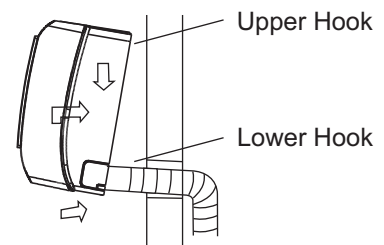
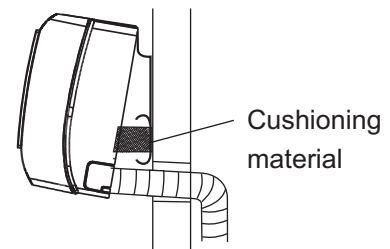

Fig.10
Fig.11
- Put the upper claw at the back of the indoor unit on the upper hook of the installation plate, move the indoor unit from side to side to see that it is securely hooked (see Fig.10 & Fig.11).